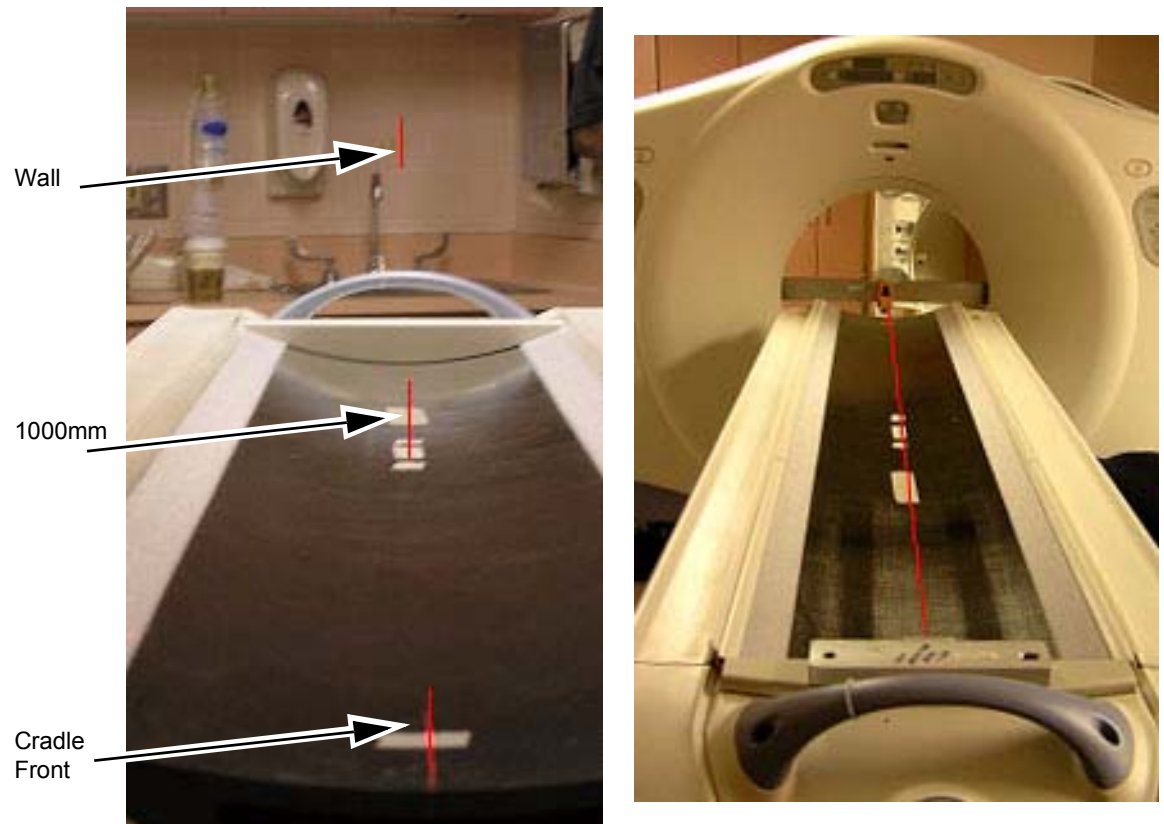

Figure 1-33 Alignment Laser Marks - Table & Wall
- 7.) The laser beam should now connect the cradle front centerlines, the 1000 mm cradle center line, onto the rear alignment tool vertical center, and finally onto the alignment centering mark placed on the wall, when properly centered along the center line. Use the centering alignment line on the wall to be sure the laser is still centered. If the alignment line on the wall is NOT on the original mark, readjust the laser and repeat the above steps (see Figure 1-33).